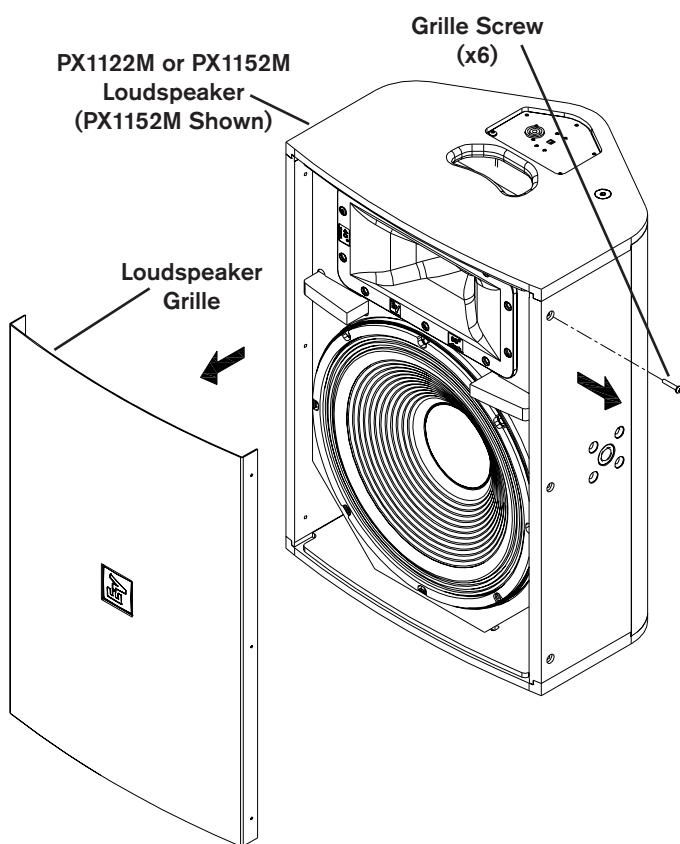

Figure 5: Removing the Grille from the Enclosure
1. Remove the (6) screws that attach the grille to the enclosure (Figure 5).
5. Reattach the grille using the (6) screws (reverse of Figure 5).